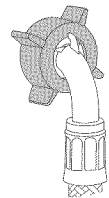

Fig.6 Washer end of hose (elbow end)
- 2 Install elbow ends of hoses onto clothes washer inlet valves (refer to Fig.6). The valves are marked on the back of the washer (H=hot, C=cold). Ensure the hot valve is connected to the hot faucet and the cold valve is connected to the cold faucet.